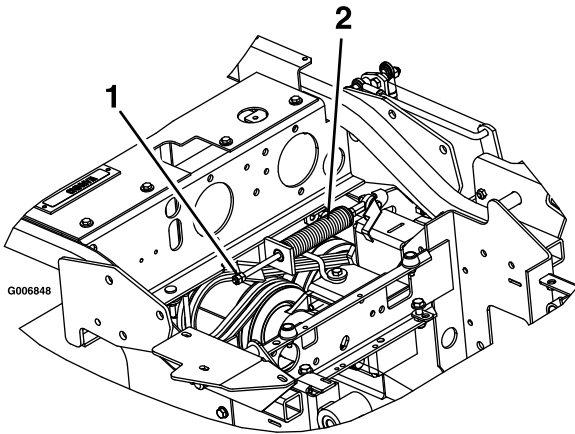

Figure 65
3. Locate the brake spring and thread the 2 jam nuts out to the end of the brake spring rod (Figure 65).